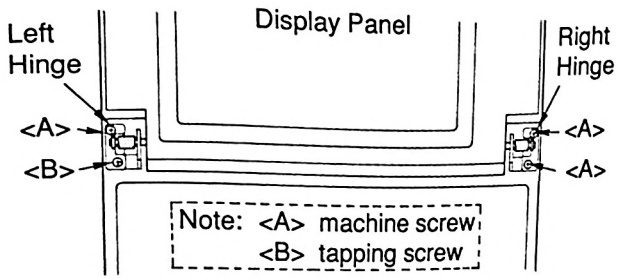

Figure 6
- (9) Remove three screws <A> (machine screw, 3Ø×8) on the right and left hinges, and remove one screw (tapping screw, 3Ø×10) on the left hinge as shown in Figure 6.